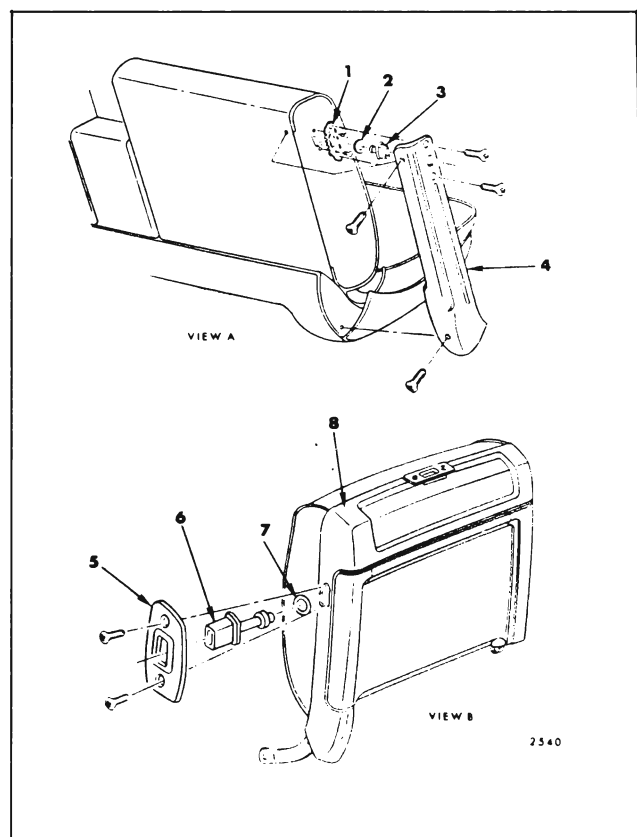

Fig. 15-20—Seat Back Lock Removal -
2. On styles with seat back panel, remove seat back lock push button escutcheon and remove lock push button and ferrule; then, remove seat back panel (See Fig. 15-20). On styles with
seat side panel, remove seat side panel; then, remove lock push button and ferrule (Fig. 15-20).